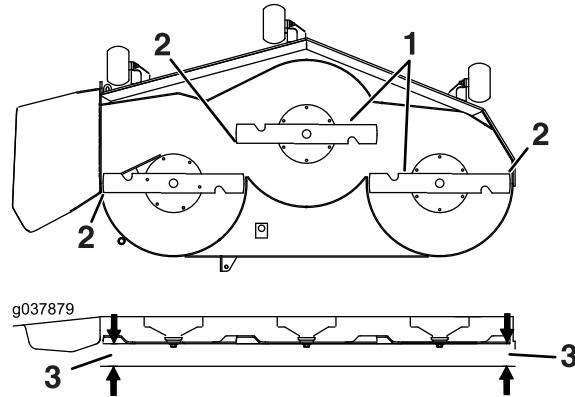

Figure 90
6. Measure between the blade tip and the flat surface (Figure 90). If both measurements are not within 5 mm (3/16 inch), adjust the leveling; continue with this procedure.
14. Carefully rotate the blades side to side (Figure 90).